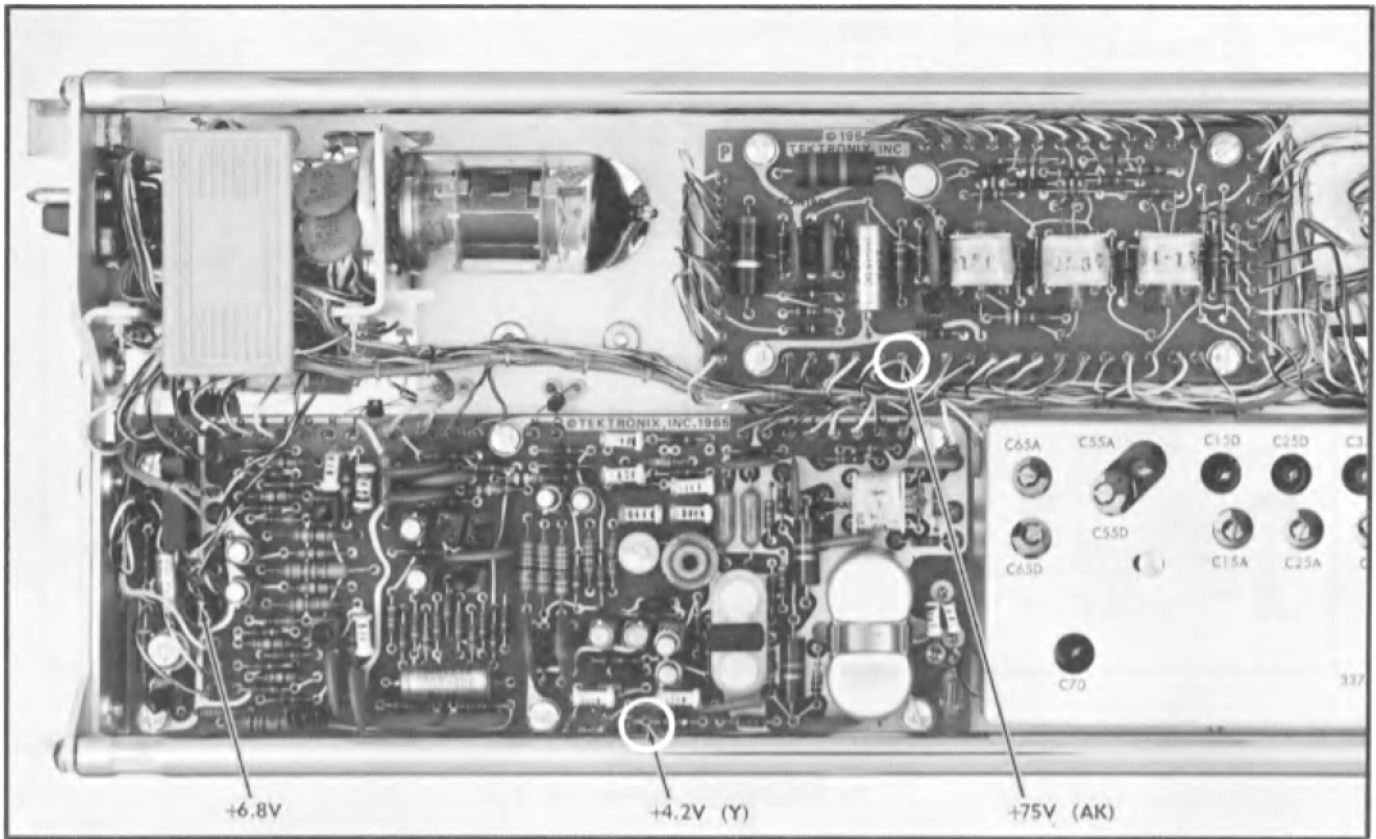

Fig. 6-4. Power Supply test points.
b. Measure the voltage at each of the test points shown in Fig. 6-4. The meter must be correct to within $\pm 1\%$, or have a scale that is corrected to $\pm 1\%$ at the voltages listed. Tolerances are listed in Table 6-1.
c. Measure the ripple voltage on the 4.2- and 75-volt supplies with the test oscilloscope and 1X probe. Use the test points shown in Fig. 6-4. 20 mV equals four divisions, and 10 mV equals two divisions on the test oscilloscope crt.